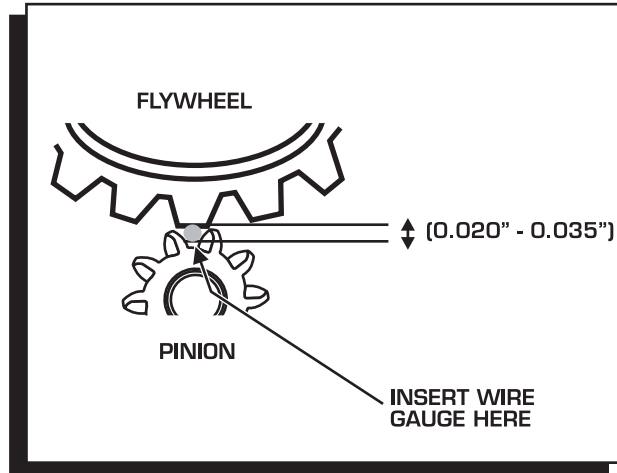

Figure 4 Checking Gear Mesh.
5. To check the pinion gear mesh, gently pry the pinion gear out to engage to the ring gear. (Sometimes the pinion will not retract. This is normal.) Insert a wire gauge as shown in Figure 4. As a gauge, a standard #1 paper clip could be used as they generally are about .035" in diameter. There should be .020"-.035" clearance between the ring gear tooth and the pinion gear.
If there is a high pitch whine during cranking, the pinion to ring gear engagement may be out of specification, on the high side. If there is a whine after cranking there may be too little of clearance. The gear mesh spec is .020"-.035" (Figure 4).